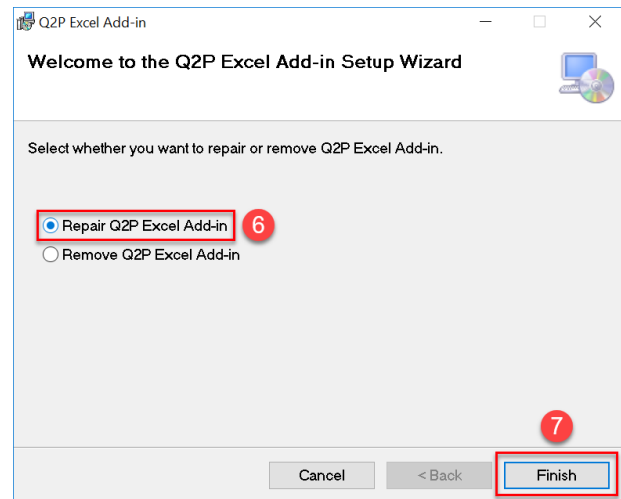

Figure 1.2 Window with "Repair Q2P Excel Add-In" tool.
6. A window should pop up with two radio buttons (Figure 1.2). Select the **"Repair Q2P Excel Add-in"** radio button and click the **"Finish"** button.